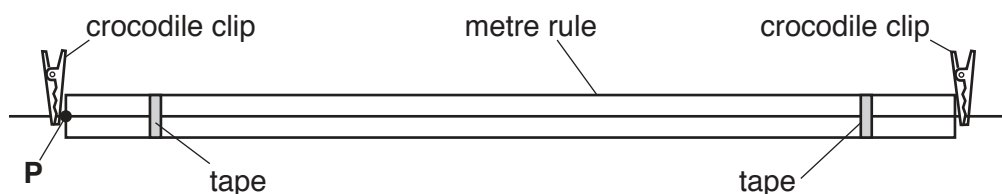

Fig. 2.2
4. The wire must be attached to the metre rule as shown in Fig. 2.2.
Check that the circuit is arranged as shown in Fig. 2.1 and Fig. 2.2.